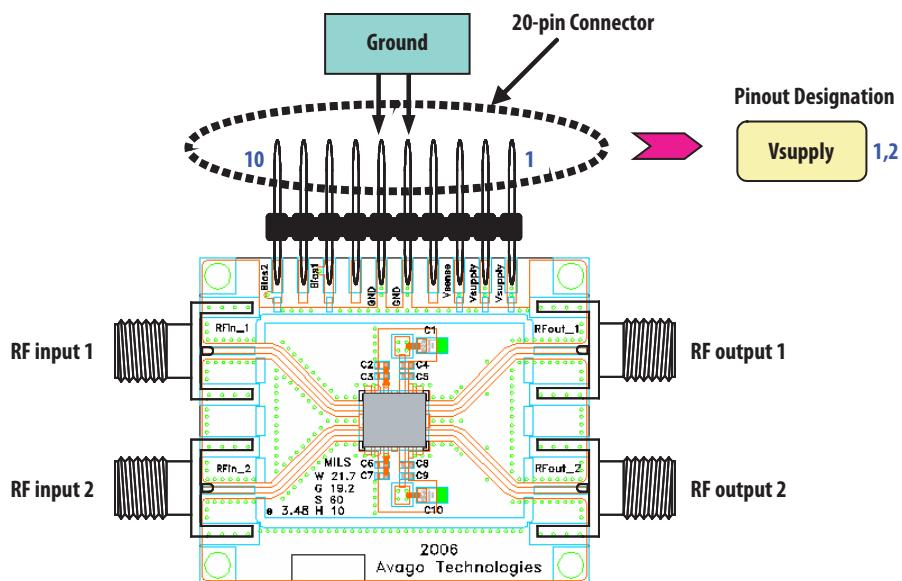

Figure 5. Demo Board Layout Diagram
$T_A = 25^\circ\text{C}$, $V_{dd} = 5\text{V}$ @ $V_{ctrl}=2.2\text{V}$, RF performance at 2.0 GHz, given for each of the 2 RF paths, measured on demo board (see Fig. 5) unless otherwise specified.
7. Measurements at 2GHz obtained using demo board described in Fig 5.